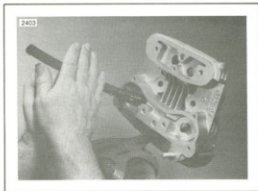

Figure 3-13. Lapping Valves
LAPPING VALVE FACES AND SEATS (Figure 3-13)
- Repeat lapping procedure as shown in Figure 3-13.